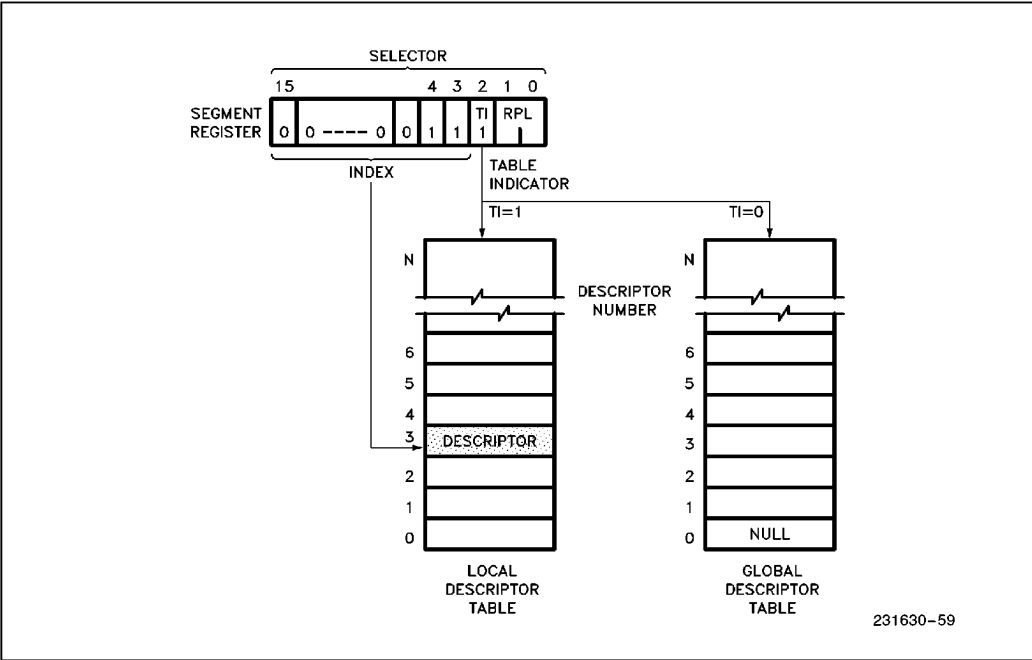

Figure 4-10. Example Descriptor Selection
A selector in Protected Mode has three fields: Local or Global Descriptor Table Indicator (TI), Descriptor Entry Index (Index), and Requestor (the selector's) Privilege Level (RPL) as shown in Figure 4-10. The TI bits select one of two memory-based tables of descriptors (the Global Descriptor Table or the Local Descriptor Table). The Index selects one of 8K descriptors in the appropriate descriptor table. The RPL bits allow high speed testing of the selector's privilege attributes.